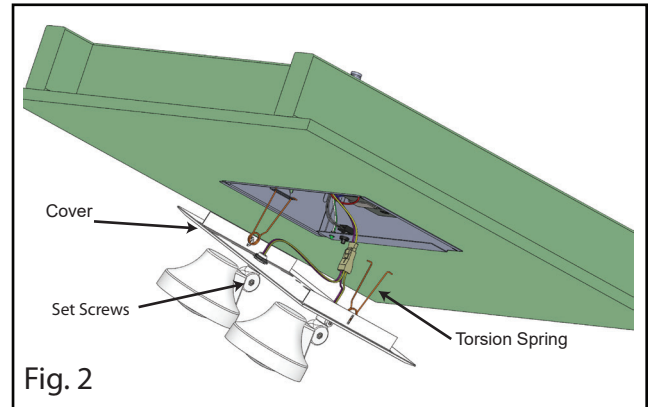

Fig. 2
6. Replace the cover by inserting the two torsion springs into the space provided inside the back box. (Fig. 2)